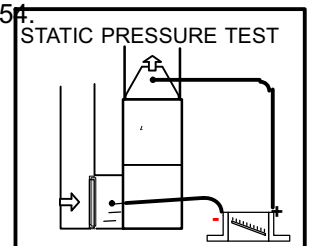

FIGURE 54
- 1 - Tap locations shown in figure 54.